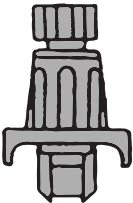

Figure 3
1. Remove the cover from the female luer of the Safedraw™-P Luer-lock adapter (figure 3) and connect a Luer-lock syringe, or other suitable blood sampling device, to it.